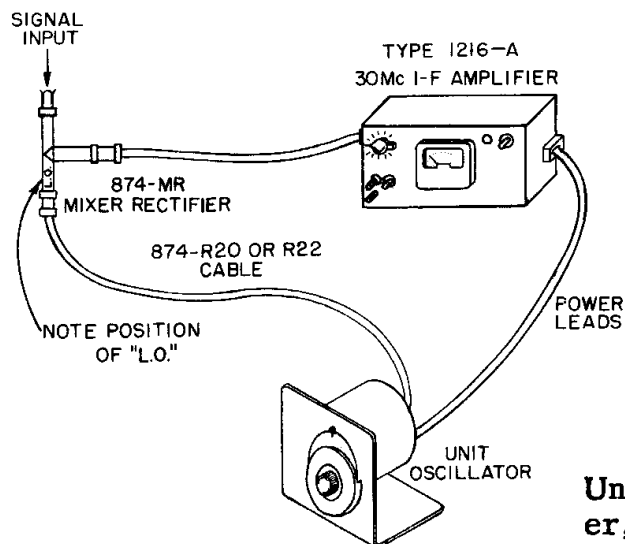

Figure 4.
3.4 UNIT OSCILLATOR AS A FREQUENCY CONVERTER. Connected to a Type 874-MR Mixer Rectifier, the Unit Oscillator can provide the local signal in a heterodyne converter to adapt the Type 1216-A Unit I-F Amplifier for use as a sensitive detector for v-h-f and u-h-f signals. (See Figure 4.) Without additional tuning, the conversion loss is about 6 db at an intermediate frequency of 30 Mc.